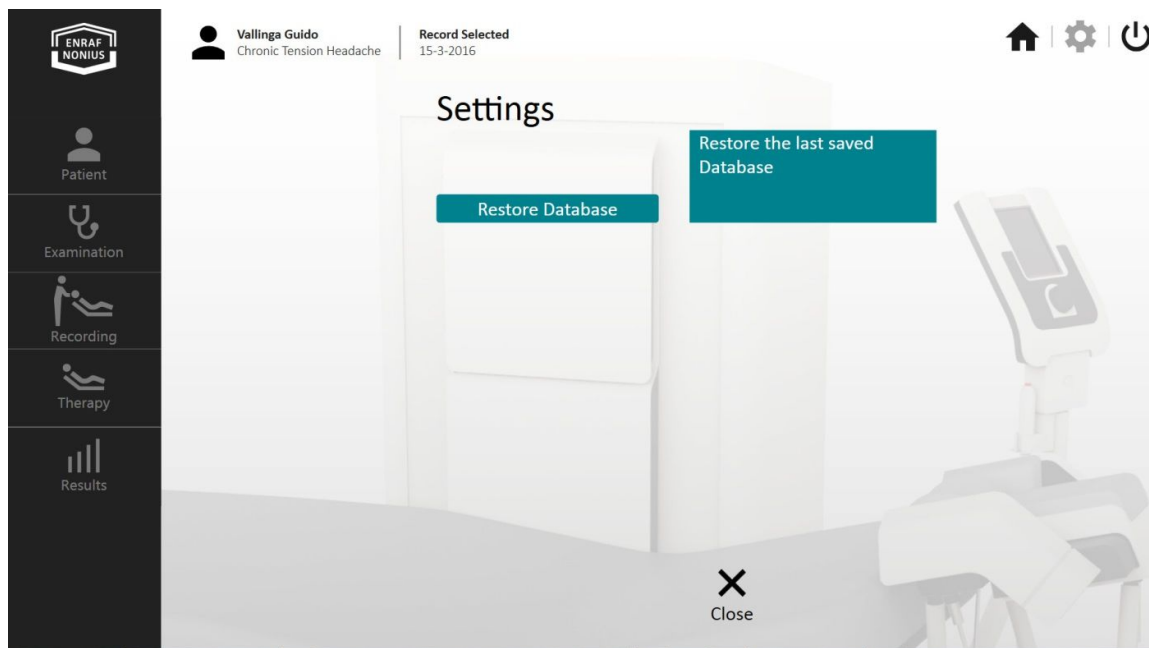

fig. 100
- Select “Restore Database” in the Database Manager and click “Restore Database or Restore the last saved Database” to restore. (fig 100)